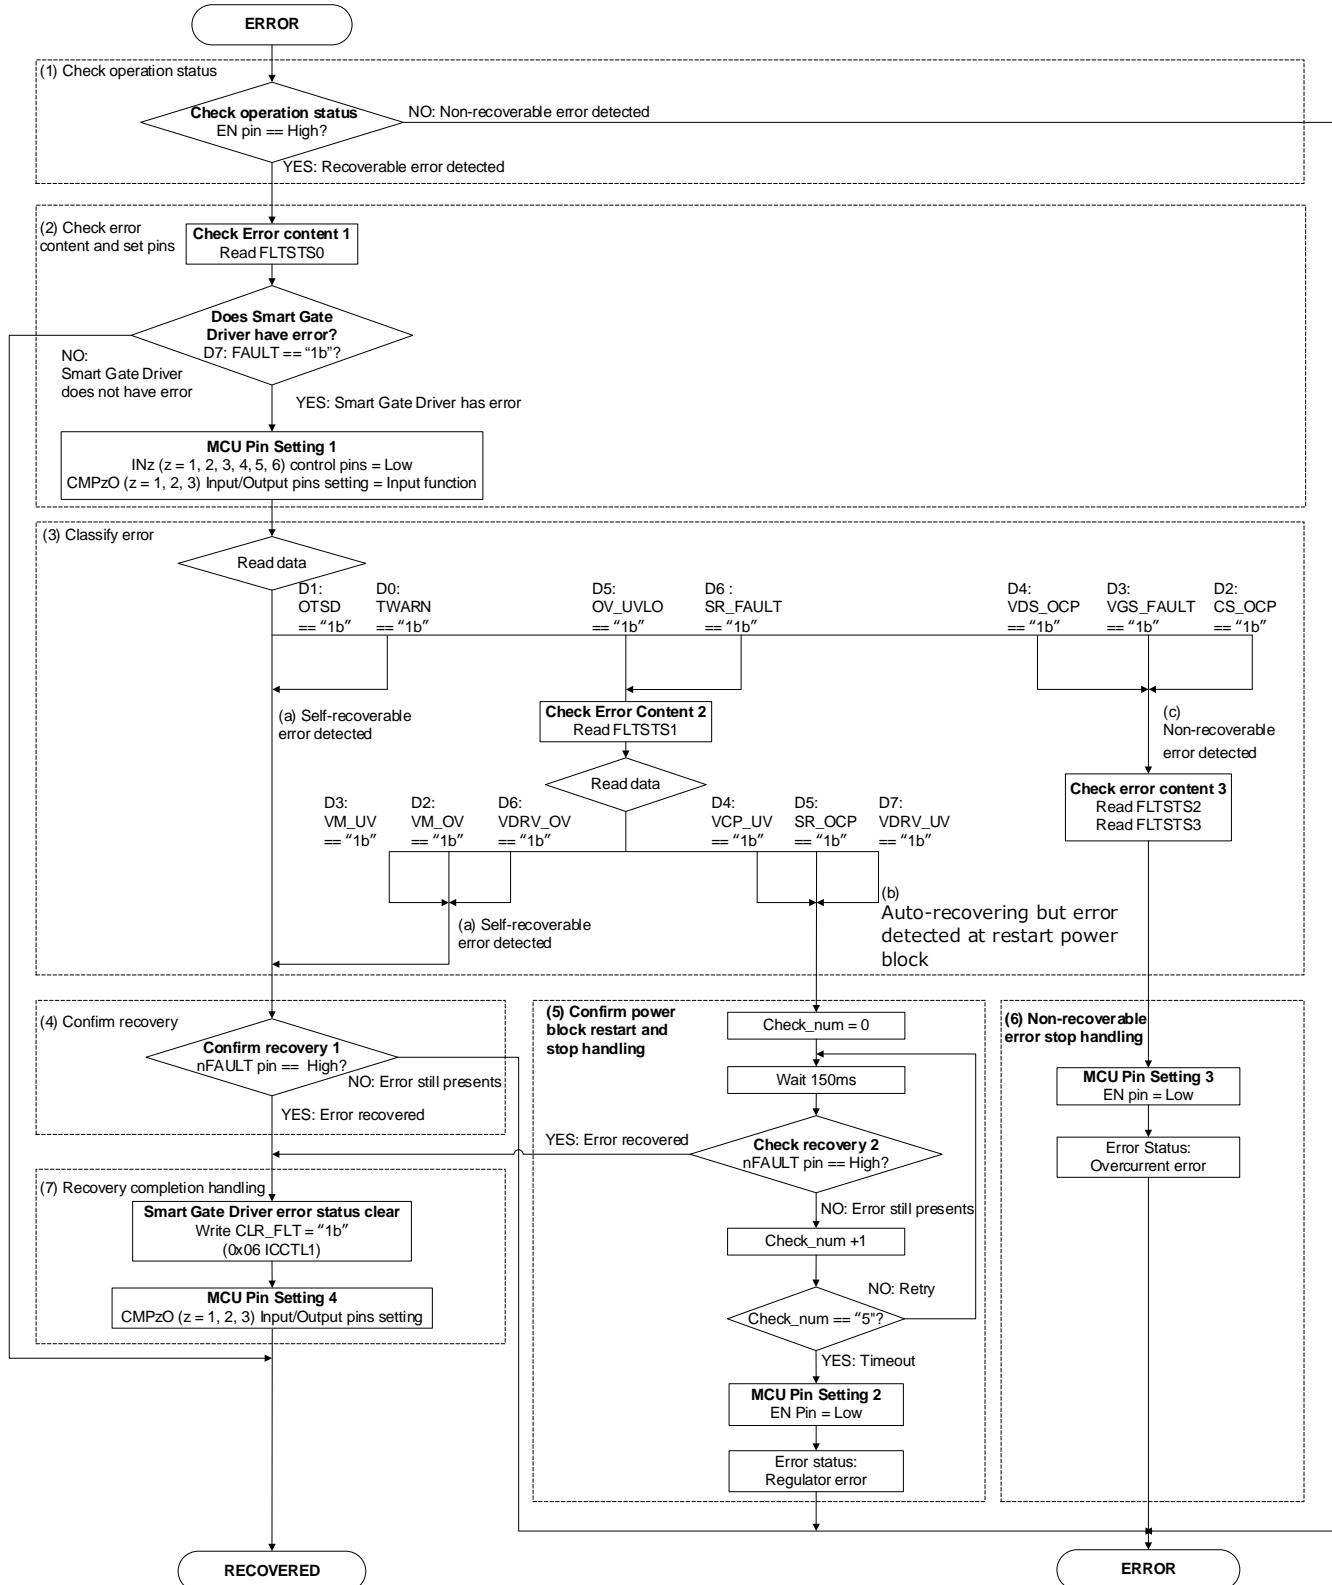

Figure 3-2 Smart Gate Driver Error Recovery Sequence Example
**Figure 3-2** shows a flowchart of an error recovery sequence example for the smart gate driver. The fault and recovery actions for the fault detection functions of the smart gate driver depend on the contents of the fault detection. Although these actions also depend on the register settings for the fault detection function, they are classified as followings *in the sequence example shown in Figure 3-2*.